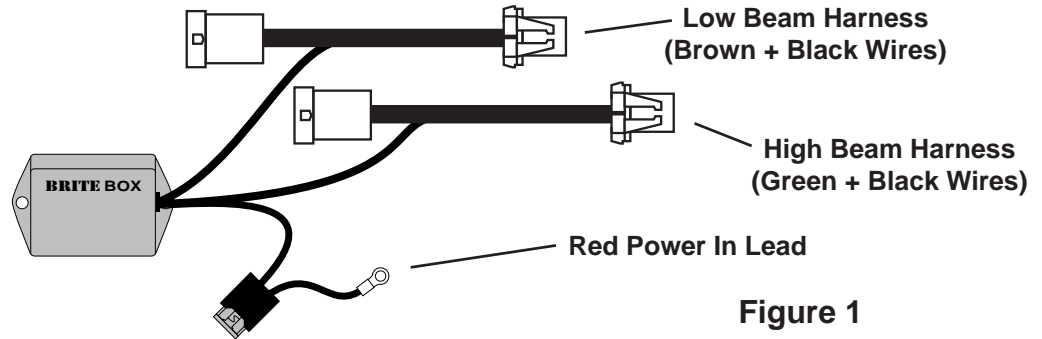

Figure 1
**STEP 2:** Find a suitable location to mount Brite Box on inner fender of vehicle near battery. Make sure the low and high beam harnesses from Brite Box (see figure 1) can be run to the vehicle's headlight wires. The red wire (attached to fuse holder) of Brite Box must be able to reach positive (+) battery clamp.